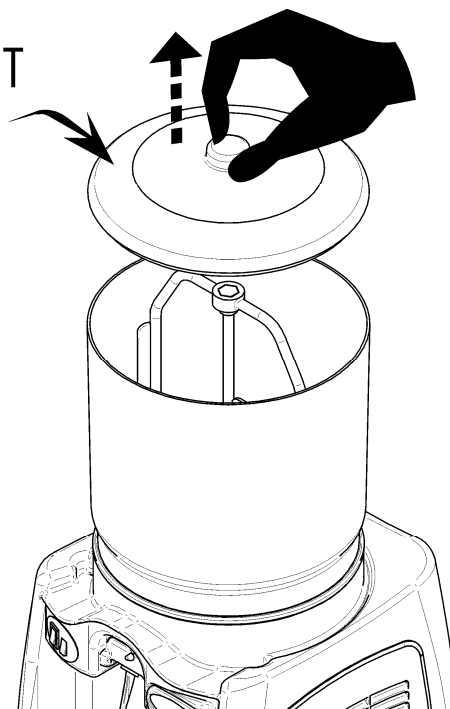

Figure 6
3°.- Take off the covers (T), throwing of them up (Fig.6).